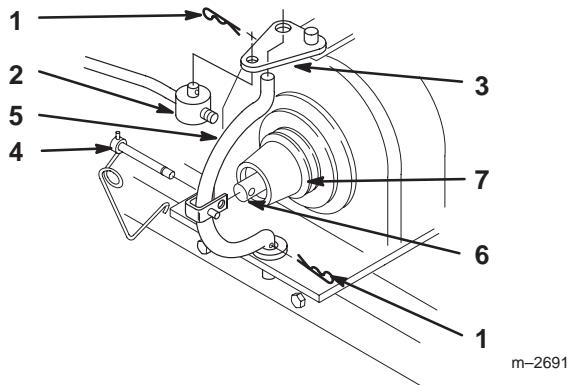

Figure 39
2. Remove hairpin cotters from trunnion and bottom of yoke (Fig. 39).
3. Unlatch and remove locking clevis pin that secures yoke assembly to clutch shaft. Pivot yoke out and forward to remove from clutch shaft and engagement plate (Fig. 39).
4. Remove snowblower belt from pulley (Fig. 39).
5. Assemble yoke and engagement plate and attach locking clevis pin, trunnion and hairpin cotters to secure (Fig. 39).